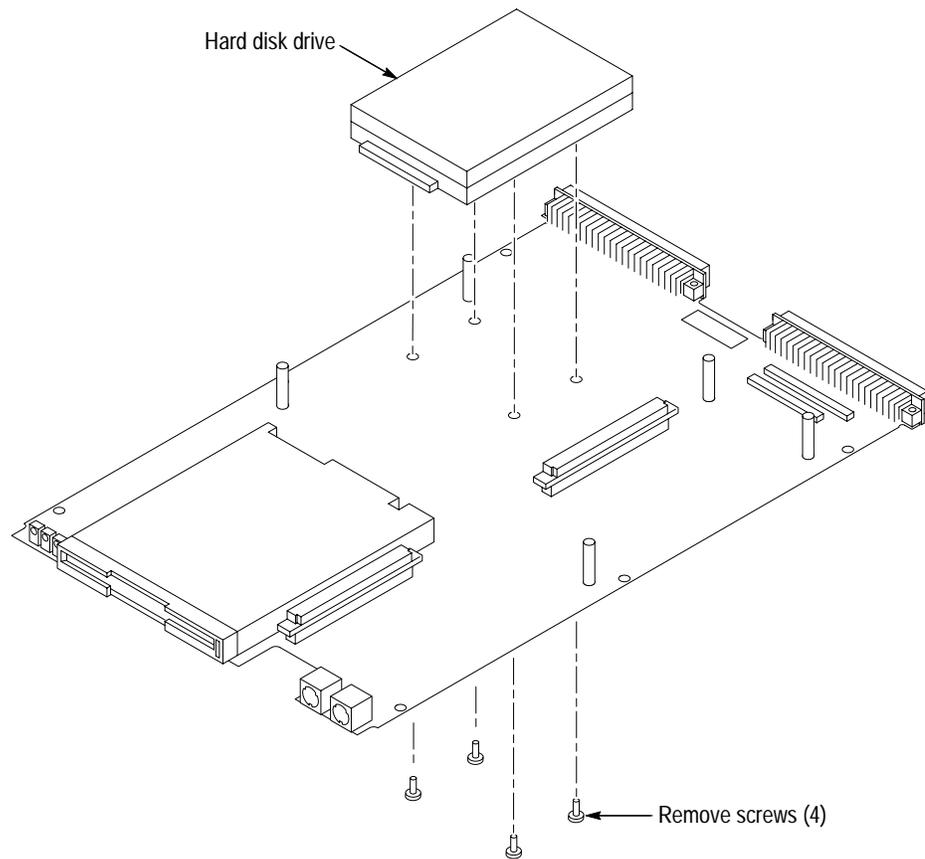

Figure 10: Hard disk drive removal
4. Remove the four Phillips screws securing the hard disk drive to the solder side of the Adapter board. (See Figure 10.)